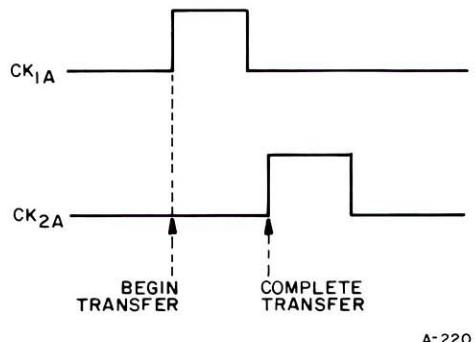

Figure 4
The CCD register transports the charge packets from cell to cell. For this purpose, two transport clock signals, CK_{1A} and CK_{2A} , are required. In order to transfer all charge packets forward by one cell, it is necessary to raise and lower CK_{1A} and CK_{2A} in turn. See Figure 4. The simplest possible circuit has $CK_{2A} = CK_{1A}$. Note that while the sample clock requires a fast falling edge, all four edges of the transport clocks are less critical.
3. The clocks CK_{1A} and CK_{2A} must make as many transitions as CK_{SA} and must spend >10 nsec in opposite states. See Figure 4. For the purpose of convenience, $CK_{1A} = CK_{SA}$, $CK_{2A} = \bar{CK}_{SA}$ may be implemented.